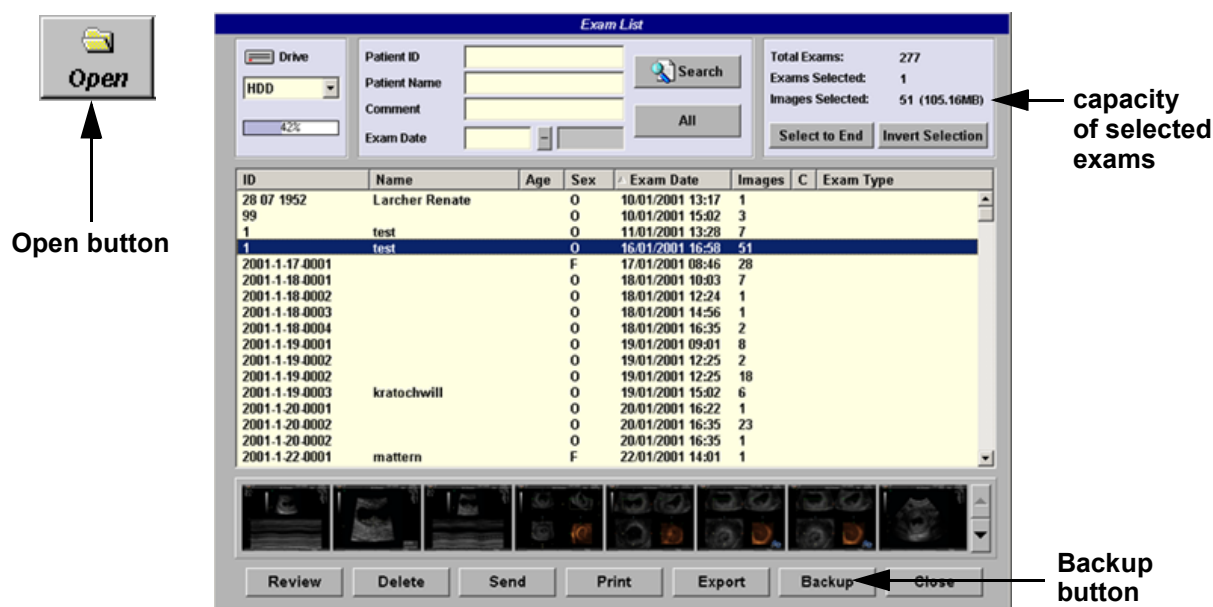

Figure 4-27 Sonoview Screen
- 4.) When you click the **OPEN** button on the upper left side of the screen, a list of all the exams is displayed see Figure 4-27.